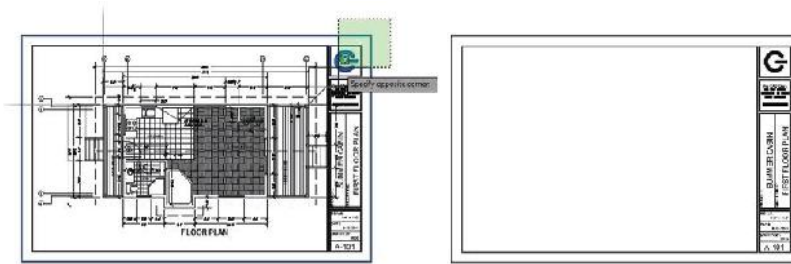

FIGURE 14.1: Selecting objects on the title block layers (left), and the resulting layer state (right)
4. Select the outer border of the title block, and a piece of text within the title block, as shown in the left image in Figure 14.1. Press ↵ to accept the selection set.
Your drawing should show only objects on the A-ANNO-TTLB and A-ANNO-TTLB-TEXT layers, matching the right image in Figure 14.1.